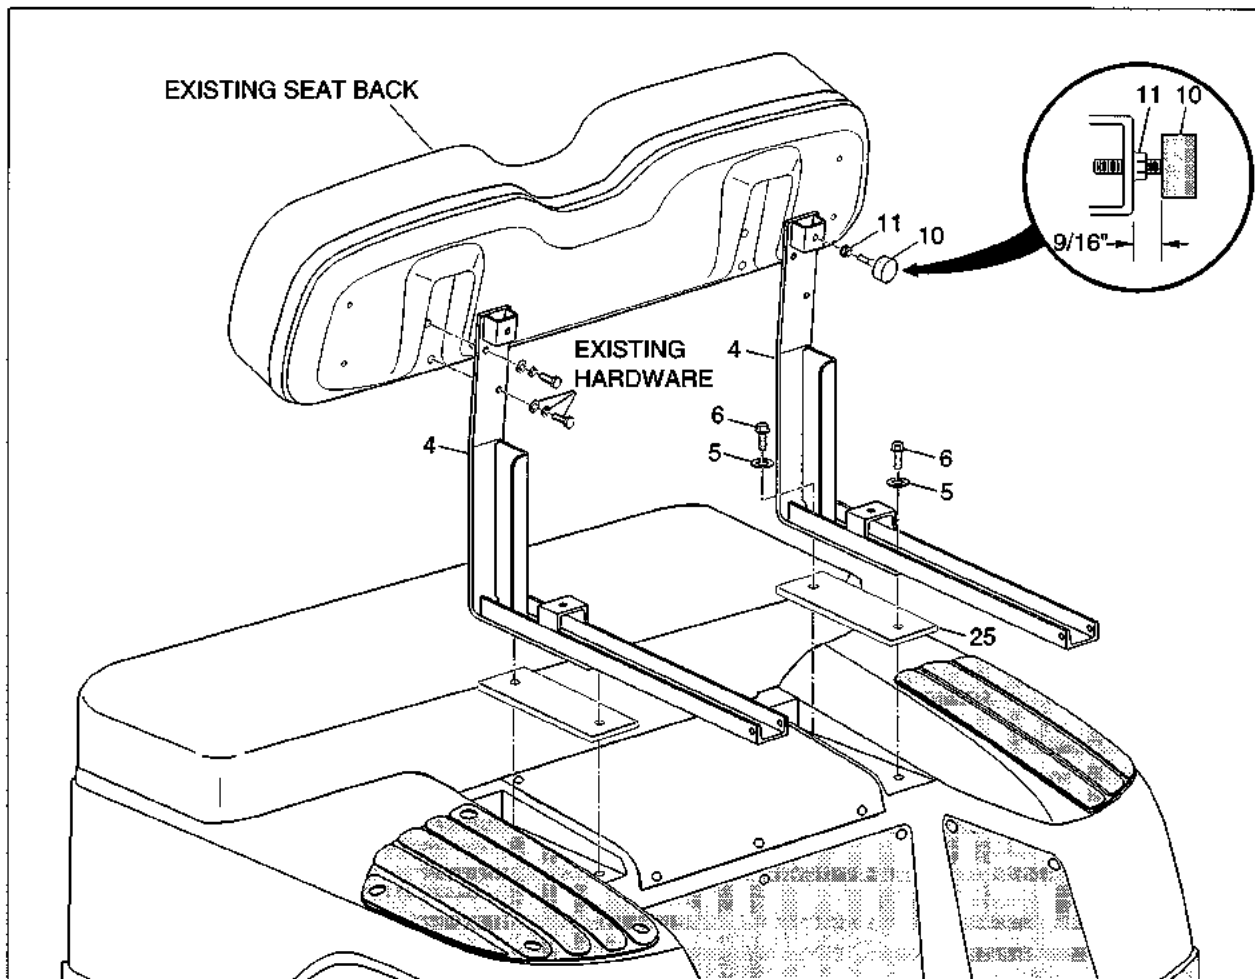

Fig. 3
B. INSTALLING SEAT BACK SUPPORT (Refer to Fig. 3)
2. Install the new seat back supports (item 4) to the frame using washers (item 5) and bolts (item 6). Finger tighten hardware to allow for adjustment.
4. Install rubber bumpers (item 10) on vertical part of seat support bracket using one lock nut (item 11) (per bumper) as shown in Fig. 3. Tighten to dimension specified.
5. Tighten bolts (item 6) to 21 - 25 ft. lbs. torque.
G. INSTALLING SEAT ASSEMBLY (Refer to Fig. 3)
1. Insert the nylon bushings (item 21) into the pivot brackets on the seat assembly (item 22, 4 places).